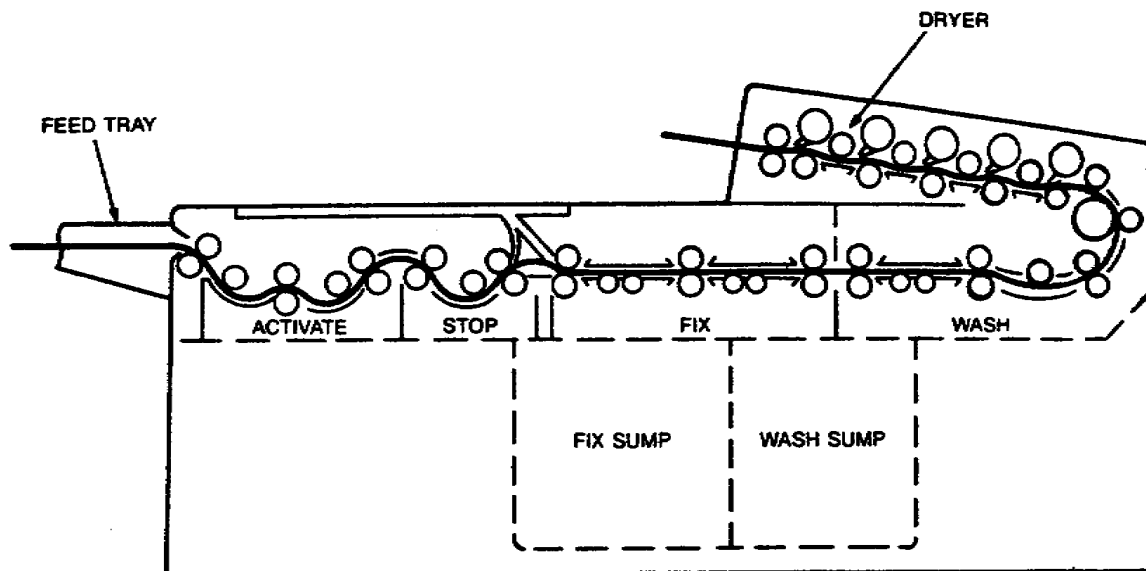

Figure 3-6. Activation process
4. Activation: The diagram of the Royalprint Processor illustrates this activation process and shows how its many advantages are realized (fig 3-6).